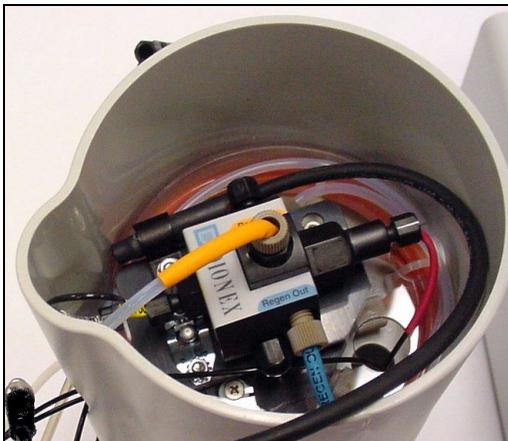

Figure 5-47. CR-TC Installed in Holder
15. Check that none of the lines are caught under the CR-TC and then push the CR-TC onto the metal stud inside the EGC holder. Push down until the CR-TC snaps in place (see Figure 5-47).